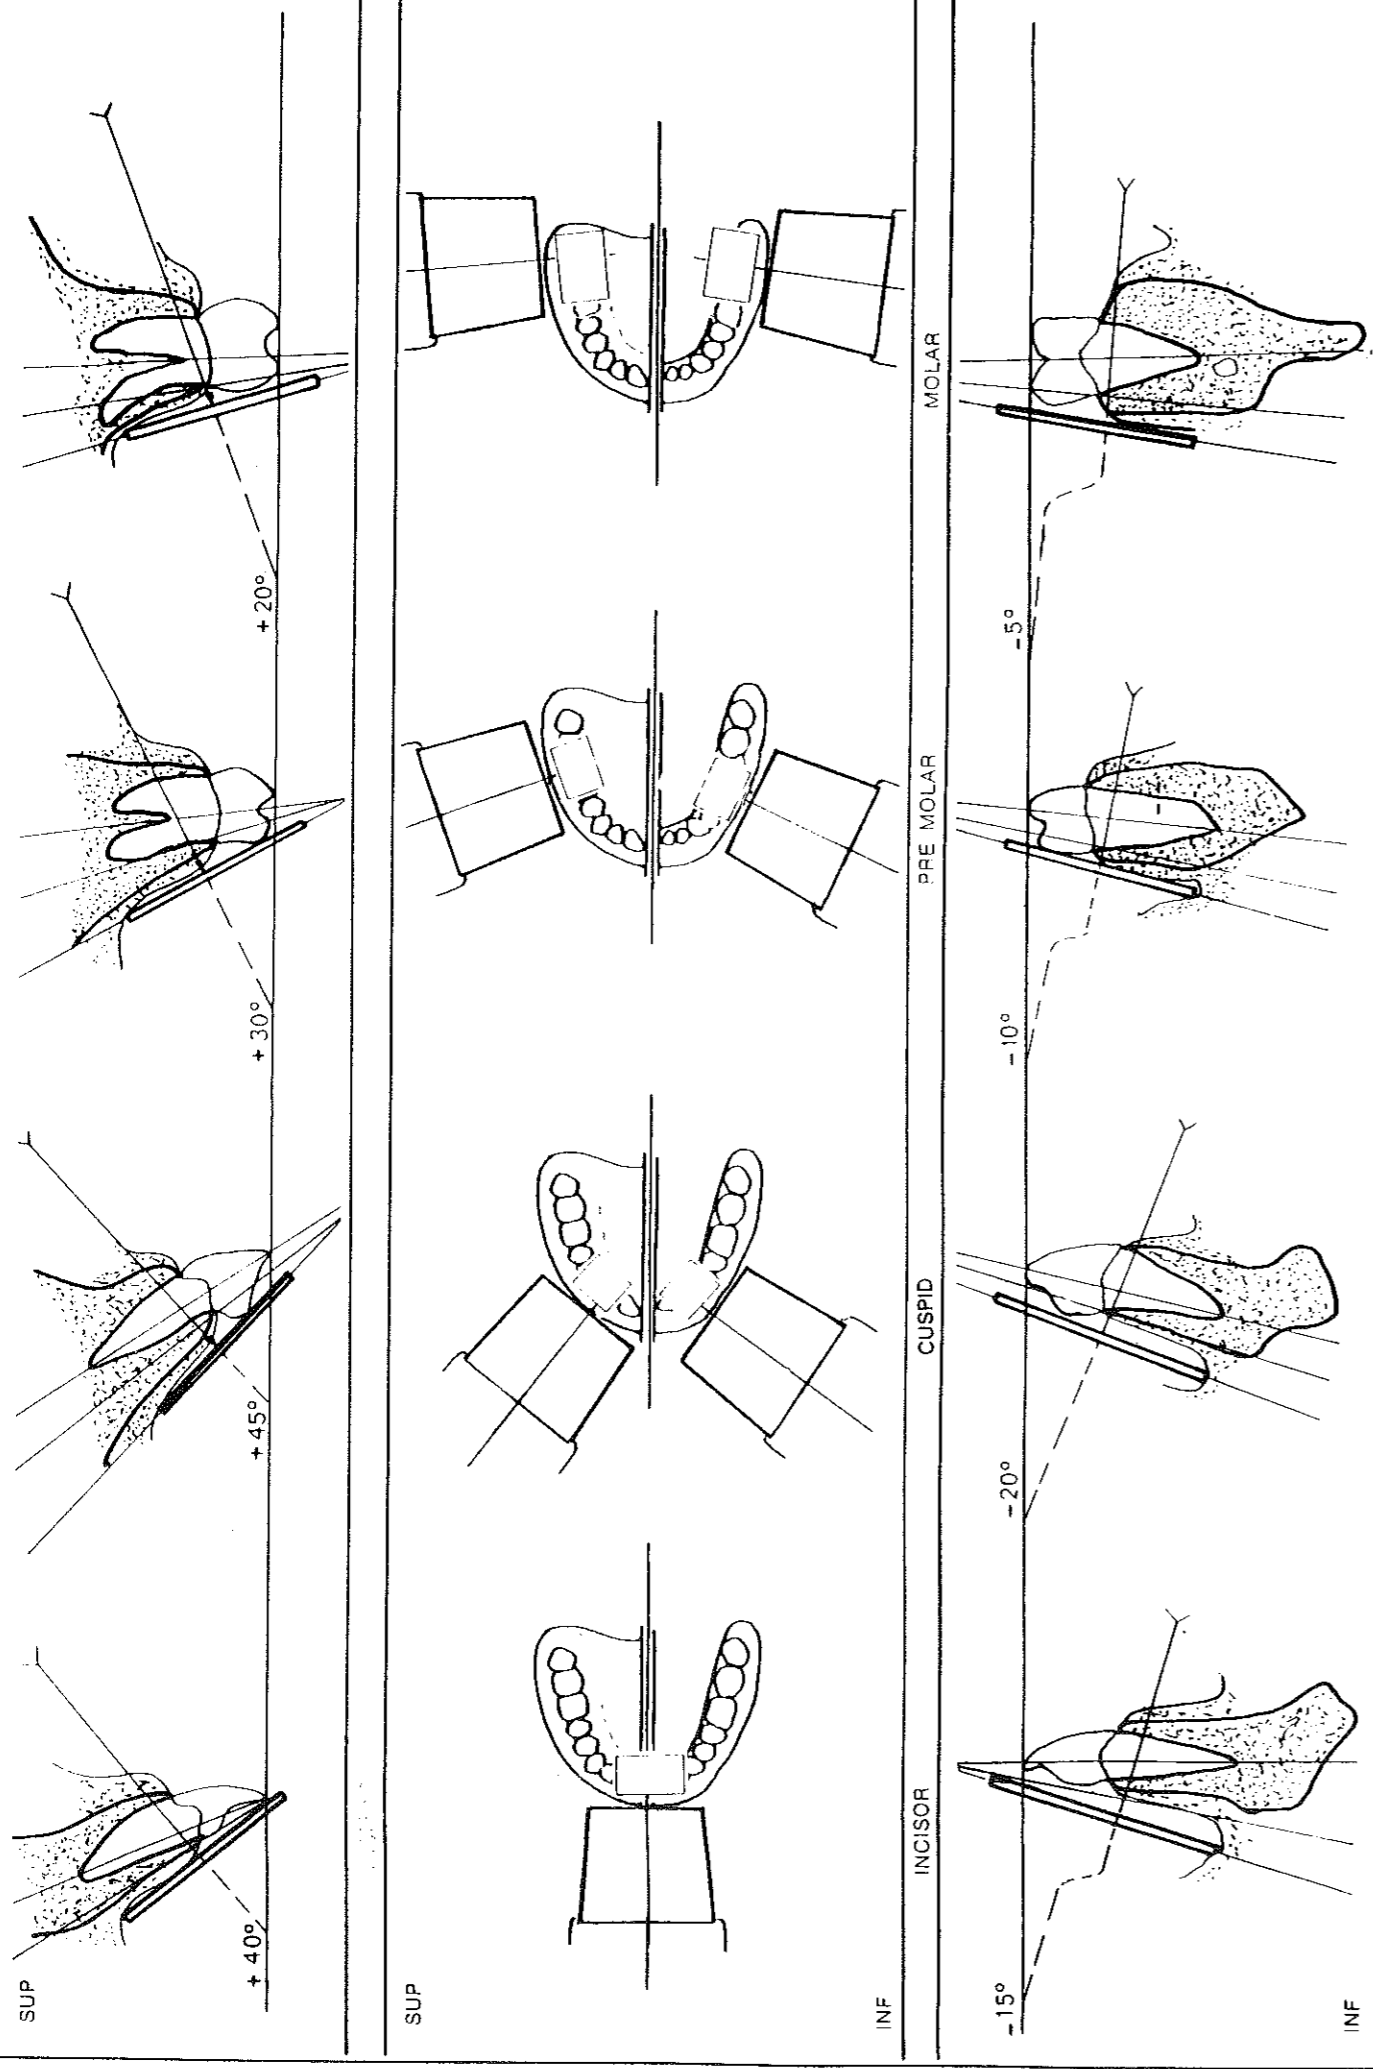

FIGURE 9 : EXPOSING
B. Figure 9 shows the position of the film and the tubehead under the parallel plane technique ; here, a film holder should be used. Figure 10 shows the film position and angle of the tubehead in the case of bite-wing and occlusal techniques.